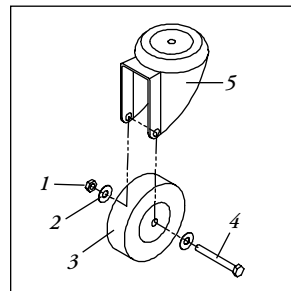

Figure 2 Front Caster
NOTE- For the front caster, examine and replace the existing washer if worn. The front caster assembly consists of two (2) washers and a caster in between. The caster will fall out between the two (2) washers (Figures 2 & 3).